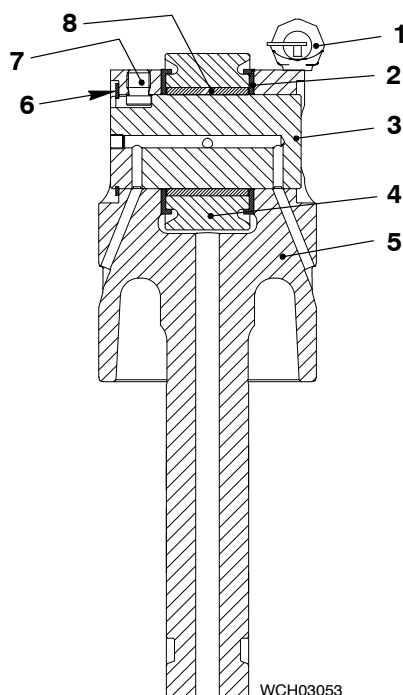

Fig. 15
- 1) Clean all parts of the guide piston (5, Fig. 15).
**Note:** In step 3), the pin (7) is installed from the inner surface of the guide piston (5).
- 3) Put the pin (7) in position in the guide piston (5).
- 5) Put oil on the flanks of the roller (4).
- 6) Put the roller (4), bush (8) and the two pressure discs (2) in the guide piston (5).
- 7) Hold the roller pin (3) in position and align the groove with the pin (7).
- 8) Push the roller pin (3) into the guide piston (5) and the roller (4).
- 9) Attach the circlip (6) to hold the roller pin (3) in position.